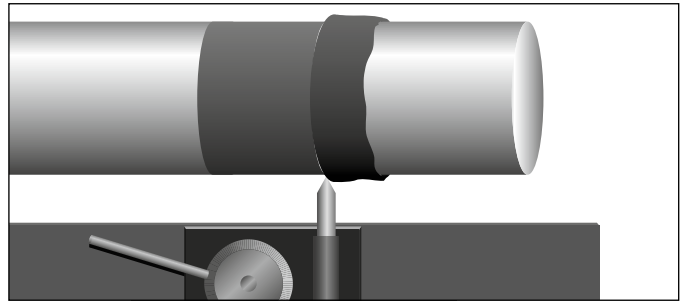

Figure 18. Machine epoxy to the original dimensions of the shaft.
4. MACHINE REPAIR: Machine repair to required dimensions using the guidelines below. (See Figure 18)